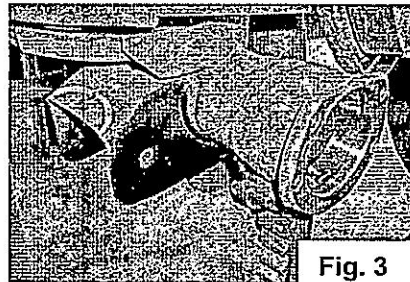

Fig. 3
Step 4: Trim Axle LCA brackets for clearance. In addition to the new holes, you will relieve the top surface of the stock LCA bracket to allow full movement of the LCA and possibly for clearance to any zerk fittings on your control arms. Figure 3 shows the typical 'half moon' of material removed – how deep to cut depends on your specific LCAs, but generally you cut though the small existing hole in the top of the bracket you